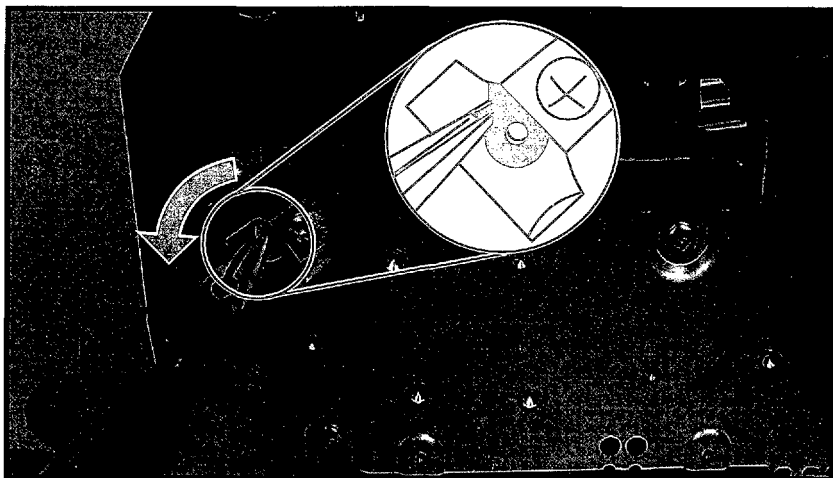

Figure 6-42 Removing the Pickup Feed Roller Assembly (side view)
2. Remove the plastic latch clip (D-Roller bushing, Figure 6-42). Use needle nose pliers to twist counter clockwise and pull it out through the access opening in the Gear Train Assembly.